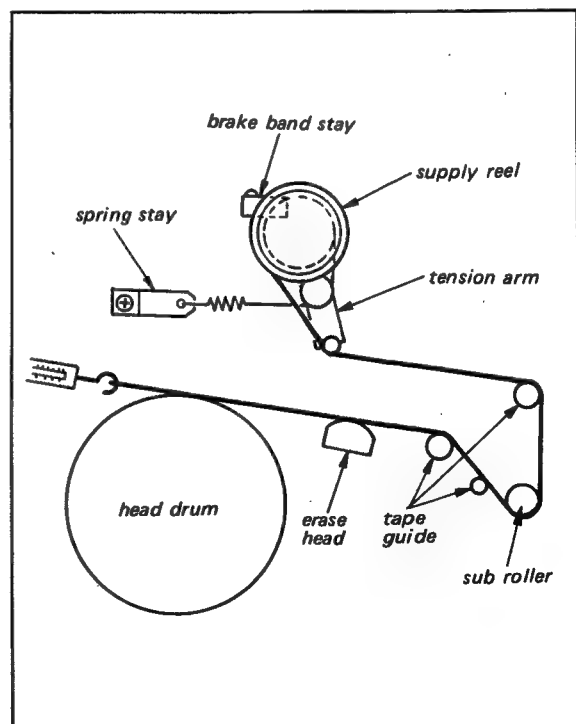

Fig. 7-19 Back tension measurement
3. Thread the tape in the path shown in Fig. 7-19.
5. Pull the scale in the direction indicated in Fig. 7-19. A steady pull at approximately the correct speed should give a reading of  $45 \text{ g} \pm 5 \text{ g}$ .
6. If tape tension is other than  $45 \text{ g} \pm 5 \text{ g}$ , bend the spring stay shown Fig. 7-19.